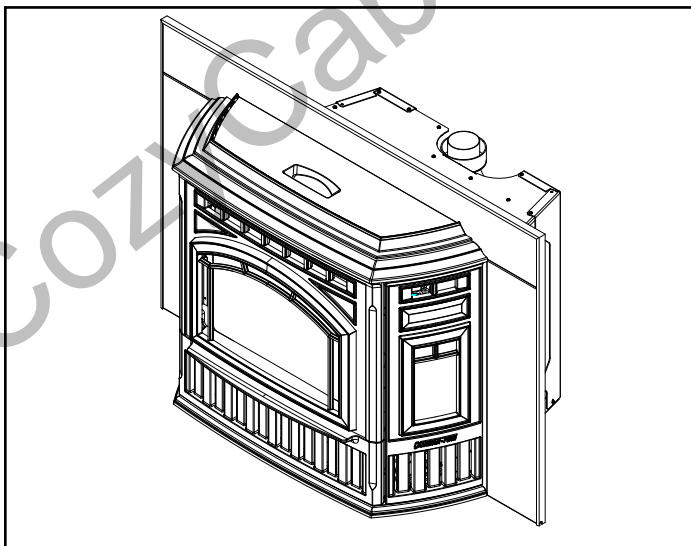

Figure 20.2 - Completed View
8. Remove both left and right cast sides from insert (**Figure 20.2**).